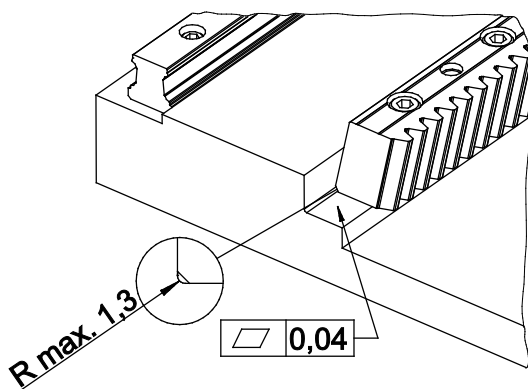

Fig. 5.1
- The rack is designed with a chamfer at the transition point between the screw-on and rear surface. This allows the mounting base to be designed without recesses. The mounting base on the machine must be designed in such a way that the milling edge does not collide with the rack chamfer (see Fig. 5.1).